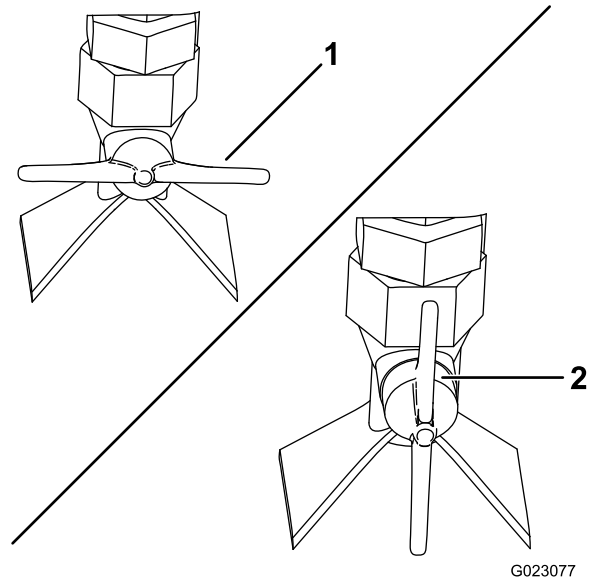

Figure 87
- For fan-shaped spray, turn the spray valve on the side of the nozzle horizontal (Figure 87).
- For a stream, turn the spray valve on the side of the nozzle vertical (Figure 87).